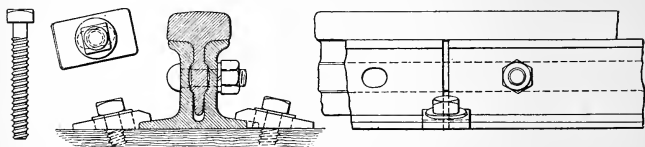

FIG. 112.—Katté Rail. Combined Rail and Splice.
There are many forms of spikes, varying slightly from each other, but no one form seems to have gone far toward superseding the old-fashioned spike. The lag screw (fig. 80) (in the opinion of many trackmen), in connection with a clip to hold the rail down, as in fig. 112, is likely to supersede the driven spike, and other persons just as well informed regard it already as a demonstrated failure. Fig. 81 is the same as fig. 82, but twisted and with a sharp point. Fig. 82 is the common  $\frac{9}{16}$ -in. by  $5\frac{1}{2}$ -in. spike; figs. 83 and 84 are modifications of fig. 82, while fig. 85 is quite different since it is intended to be driven at an angle
**Katté plan.** Mr. Katté, chief engineer of the New York Central & Hudson River Railroad, has proposed the use of a rail which is composed of two parts (fig. 112), a head and a base. These